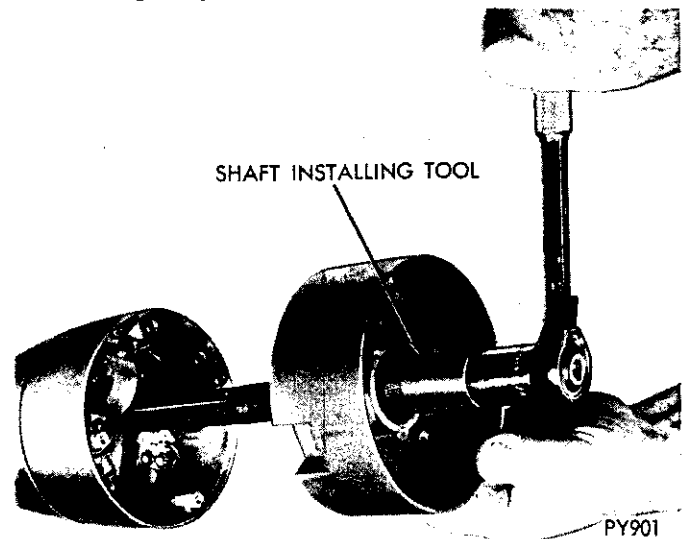

Fig. 30—Pulling Shaft Into Bearing
(5) Position the bearing housing assembly on the column jacket assembly, feeding the wires through the space between the lower housings and the jacket.
(6) When installing this housing, the steering shaft must be drawn, not pushed, through the bearing, using the bearing inner race as a reaction member, or damage to the shaft plastic shear pins, lock housing components, or bearing could result. **DO NOT DRIVE THE SHAFT INTO THE BEARING.**
(7) Install on steering shaft, Tool C-3879, with washer and steering wheel nut (Fig. 30). Turn nut to pull shaft through bearing. Remove tool and install upper snap ring on shaft.